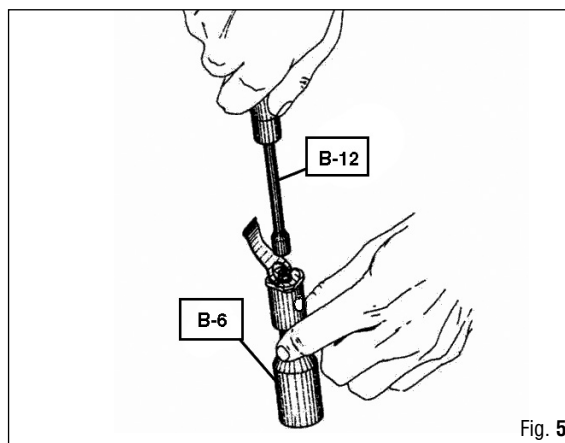

Fig. 5
23. Position the demand lever correctly in the groove on the demand lever connector (91), place the washer (34) on the valve stem, and tighten the adjusting nut (33) a few turns using the special wrench (B-12) (Fig. 5).
NOTE MAKE SURE THAT THE DEMAND LEVER IS POSITIONED CORRECTLY WITH RESPECT TO THE DEMAND LEVER CONNECTOR (Fig. 5).